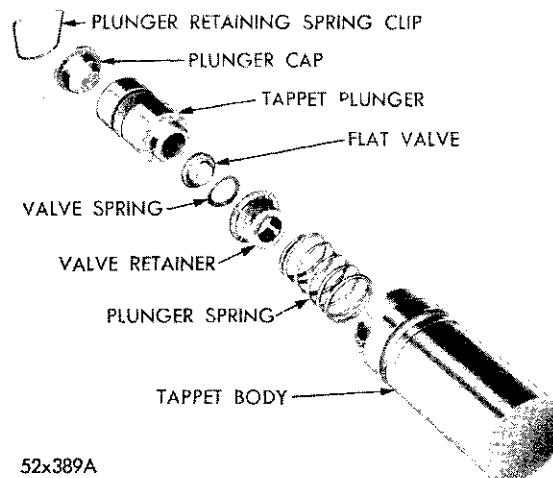

Fig. 25—Hydraulic Tappet (Disassembled View)
d. Disassembly (Fig. 25)
Clean all tappet parts in a solvent that will remove all varnish and carbon. Replace tappets that are unfit for further service. Assemble tappets, as shown in Figure 25.